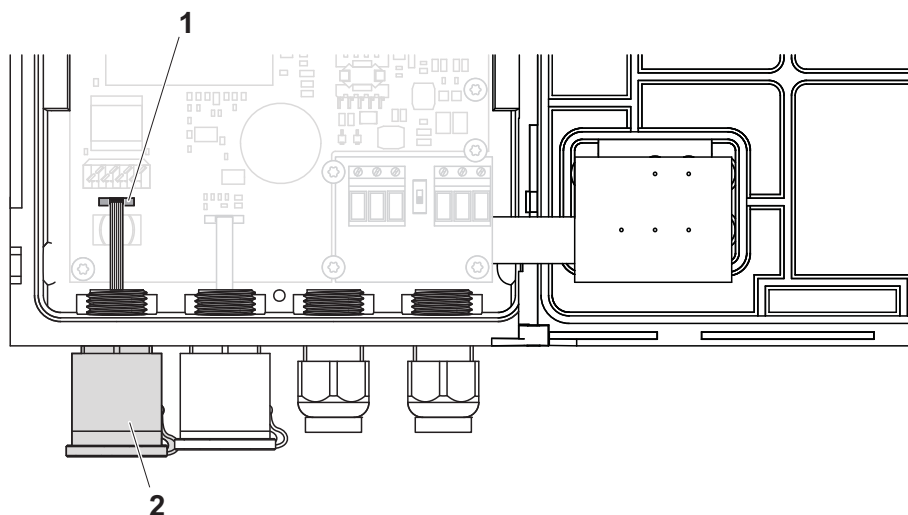

Fig. 2-4 Ethernet connection with RJ45 socket (MIQ/MC3)
2	Disconnect the flat flexible cable (pos. 1 in Fig. 2-4) from the main PCB.
| 3 | Unscrew the RJ45 socket enclosure (pos. 2 in Fig. 2-4). |